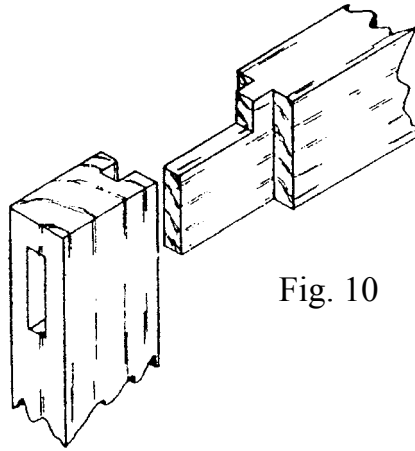

Fig. 10
36. Name the joint shown in figure 10, and where would it is used.